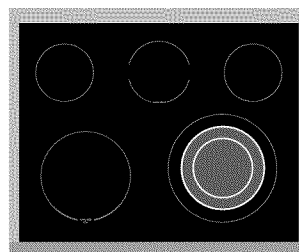
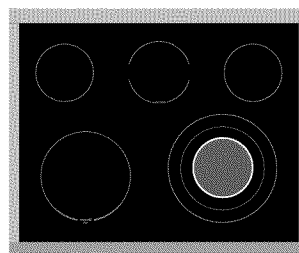

Figure 2 - Heating with the two inner portions\*
Figure 3 - Heating with inner portion only\*
2. Push in and turn the surface control knob clockwise to begin heating all, the inner, middle and outer portions of the element (Marked triple - see figure 1). If the two inner heating portions are needed turn the knob at position marked double (Marked double - see figure 2). If only inner heating portion is needed for smaller cookware, push in and turn the knob counterclockwise (Marked single - see figure 3).